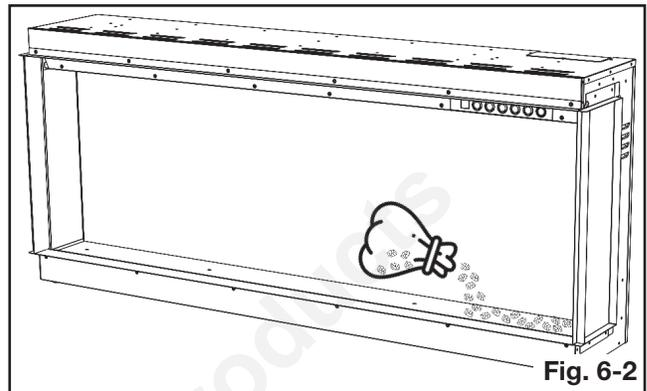

Fig. 6-2
2. Apply an even layer of small crystals along the glass media holder (**Fig. 6-2**).